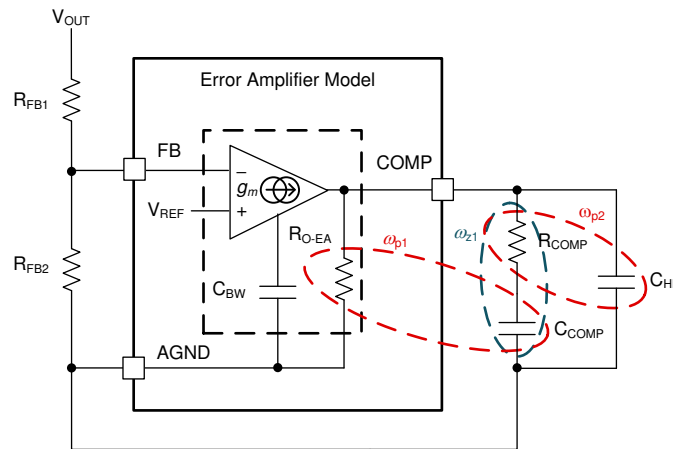

图 9-3. Error Amplifier and Compensation Network
A Type-II compensator using a transconductance error amplifier (EA) is shown in 图 9-3. The dominant pole of the EA open-loop gain is set by the EA output resistance, $R_{\text{O-EA}}$, and effective bandwidth-limiting capacitance, C_{BW} , as shown by 方程式 25.